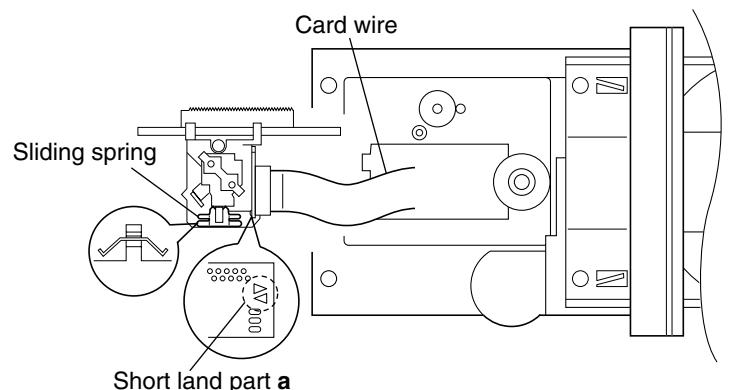

Fig.11
8. Turn the CD pickup unit upside down and apply solder to the short land part **a**. (See Fig.11.)
9. Disconnect the card wire from the CD pickup unit and replace the unit. (See Fig.11.)
**[Caution]** • Be sure to solder the short land part **a** on the CD pickup unit before disconnecting the card wire from the CD pickup unit (see Fig. 11). If the card wire is disconnected without attaching solder, the CD pickup may be destroyed by static electricity.
**[Note]** • Removing the CD pickup unit involves the removal of the sliding spring. In the assembly, be sure to attach the spring in the correct orientation before attaching the CD pickup unit (see Fig. 11).